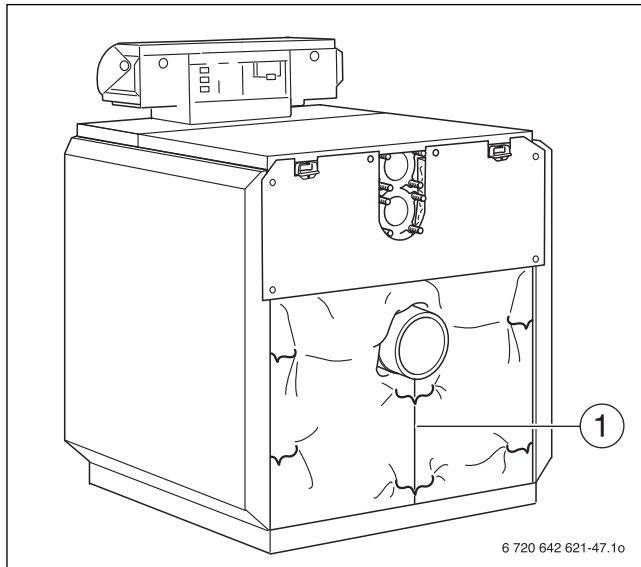

Fig. 65 Pulling the rear section thermal insulation together
- ▶ Fold the rear section thermal insulation down and pull together under the flue outlet using the spring hook (Fig. 65, [1]).